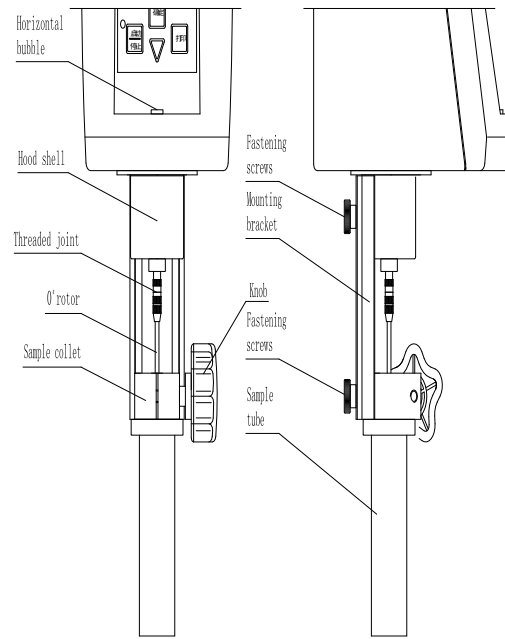

Fig. 6
- 5、 the sample cylinder is filled with 22mL test sample, the clamping knob will be adjusted to a suitable degree of tightness, and then the sample cylinder from the bottom up, move to the highest limit, tighten the clamping knob, so that the sample cylinder can not fall from the slide. (As shown in Fig. 6)